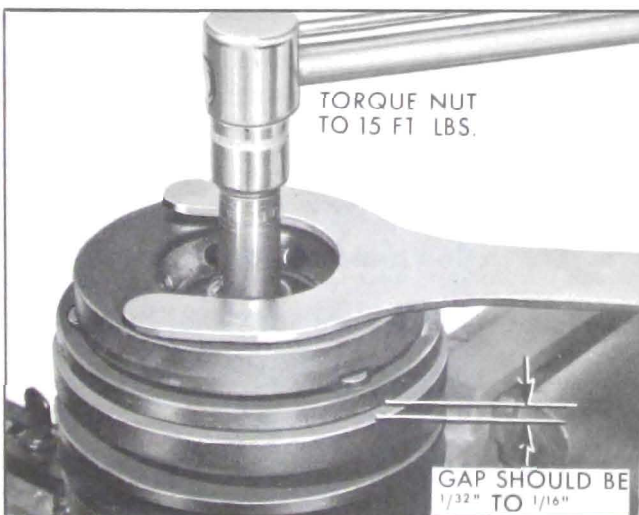

Figure 11-80—Torquing Shaft Nut
6. Install a new shaft nut, using J-9399, special thin wall 9/16" socket. Tighten to 15 lb. ft. torque. The air gap between the frictional faces of the pulley and drive plate should now be between .022" to .057" (1/32" to 1/16") clearance. See Figure 11-80.